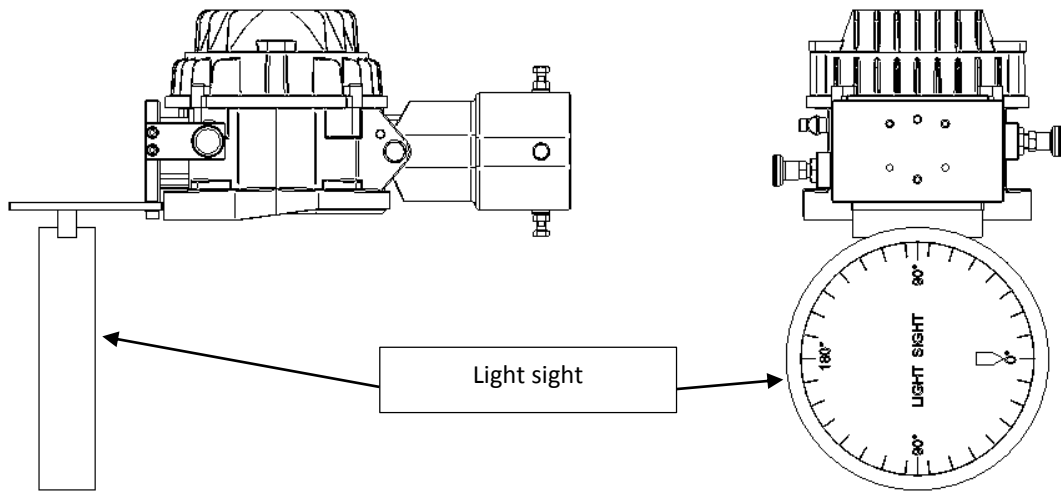

Figure 2: light sight position for horizontal aiming
Figure 2: light sight position for horizontal aiming	6
1. Attach the light sight to the adapter as shown in figure 2.